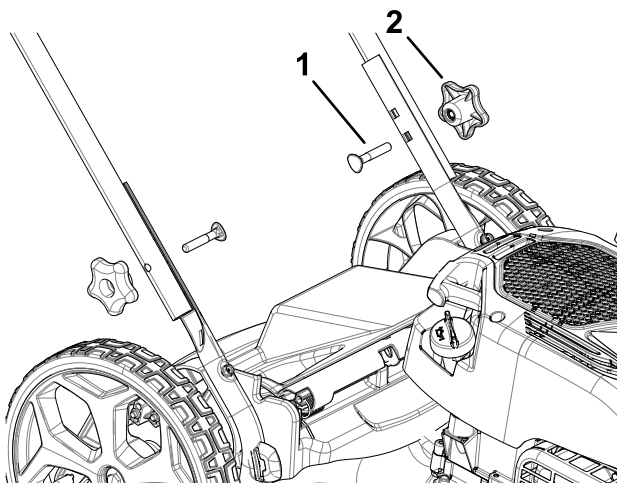

Figure 3
1. Remove the handle knobs and bolts from the machine housing (Figure 3).
2. Attach the handle to the machine housing (Figure 3).